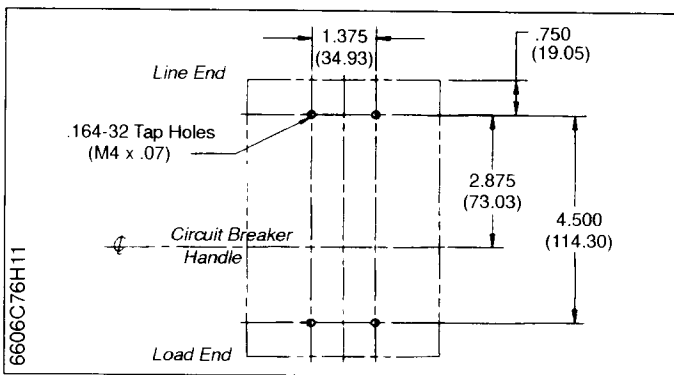

Fig. 2-1 MCP, HMCP and HMCPs Mounting Bolt Drilling Plans
- For individual mounting panels, make sure that mounting panel is predrilled using drilling plan (Fig. 2-1)